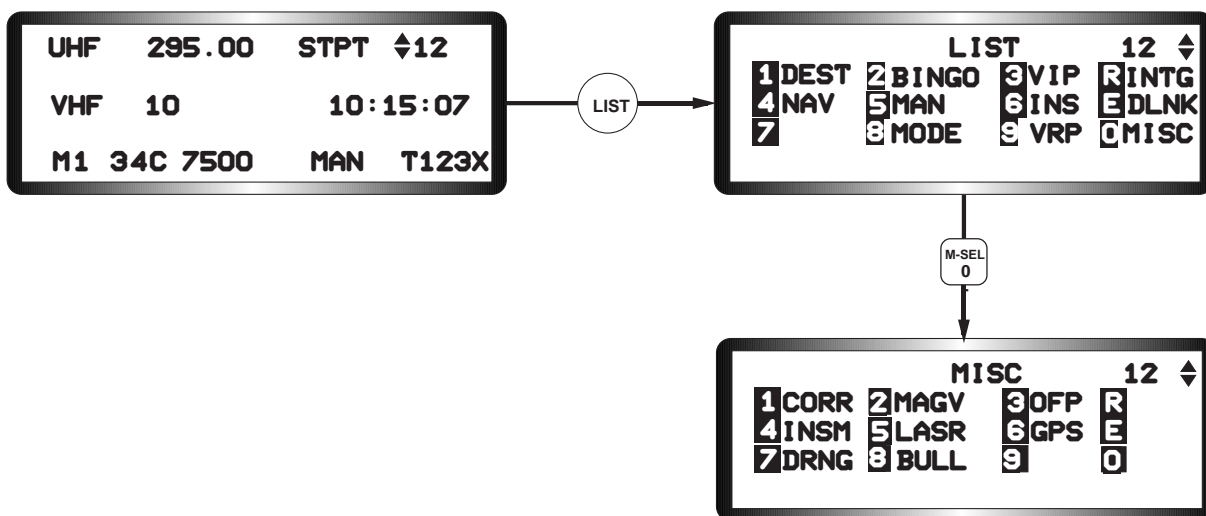

Figure 1-28 List and Miscellaneous Page Access
The LIST button (Figure 1-28) on the top row of the ICP accesses the LIST page, which lists additional pages to access with keys 1 through 0. Pressing key 0 when on the LIST page provides yet another DED page menu, miscellaneous (MISC), which may be accessed with keys 1 through 0.